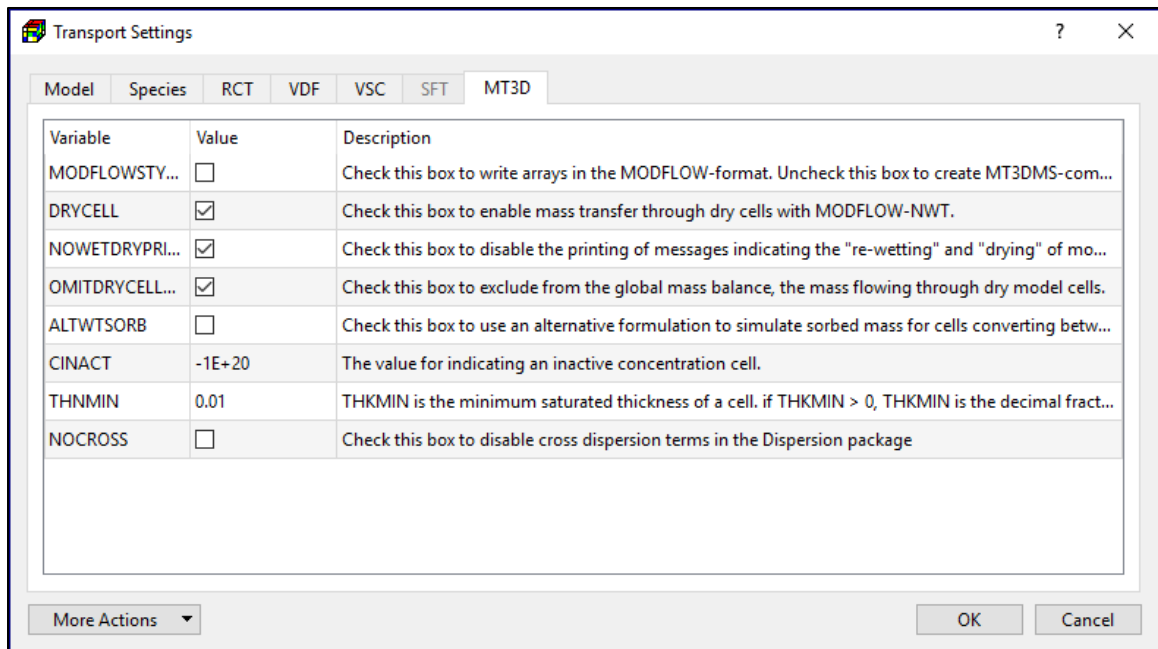

Figure 114. The MT3D tab of the Transport Settings dialog box
8. **MT3D Tab** (Figure 114) contains options and control data of MT3D.